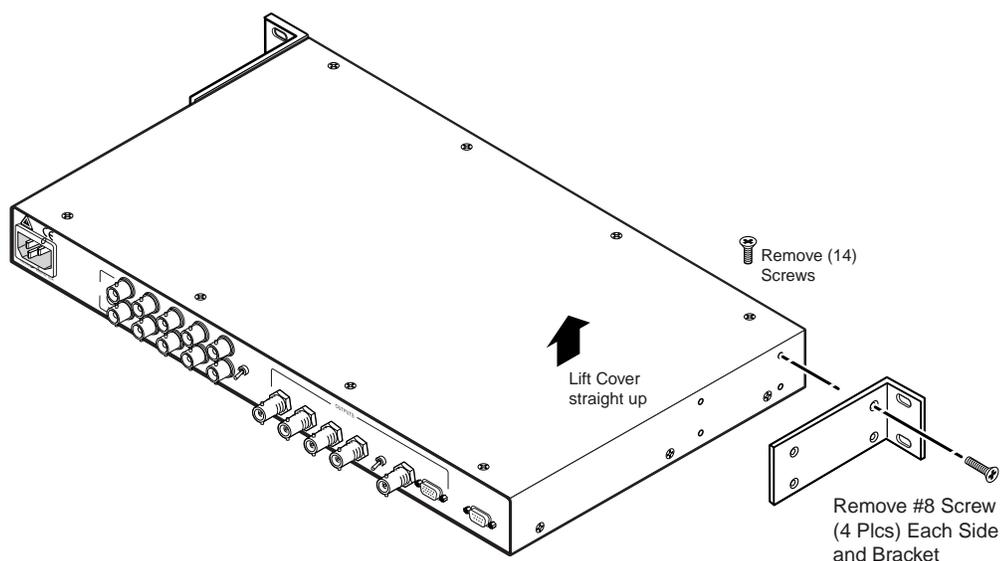

Figure 12 — Removing the cover
2. If the DDS 100 is rack mounted, remove the input and output cables from it, remove the unit from the rack, and remove the rack mount brackets (see figure 12). (If the DDS 100 is not rack mounted, you do not need to remove the input and output cables.)
3. Remove 14 screws from the sides and top of the cover (figure 12).